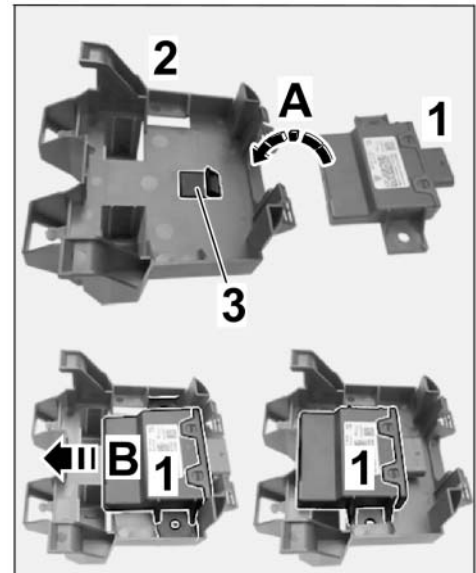

Figure 13
- 2.3.2 Insert new engine noise control unit at the underside in the control unit holder. ⇒ *Figure 13-A-*
- 2.3.3 Push the engine noise control unit in the holder to the opposite side of the plug connection (⇒ *Figure 13-B-*) until control unit engages in the holder.